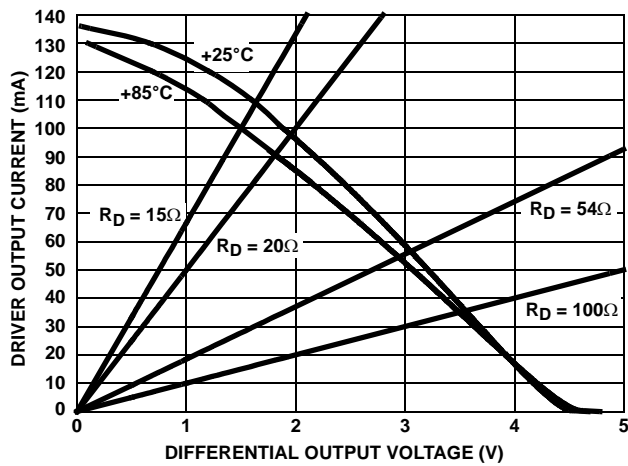

FIGURE 8. DRIVER OUTPUT CURRENT vs DIFFERENTIAL OUTPUT VOLTAGE
11. See Figure 8 for more information, and for performance over-temperature.
Another advantage of the large V_{OD} is the ability to drive more than two bus terminations, which allows for utilizing the ISL315xE in "star" and other multi-terminated, "non-standard" network topologies. Figure 8, details the transmitter's V_{OD} vs I_{OUT} characteristic, and includes load lines for six (20 Ω) and eight (15 Ω) 120 Ω terminations. The figure shows that the driver typically delivers 1.65/1.5V into 6/8 terminations, even at the worst case temperature of +85°C. The RS-485 standard requires a minimum 1.5V V_{OD} into two terminations, but the ISL315xE delivers RS-485 voltage levels with 3x to 4x the number of terminations.